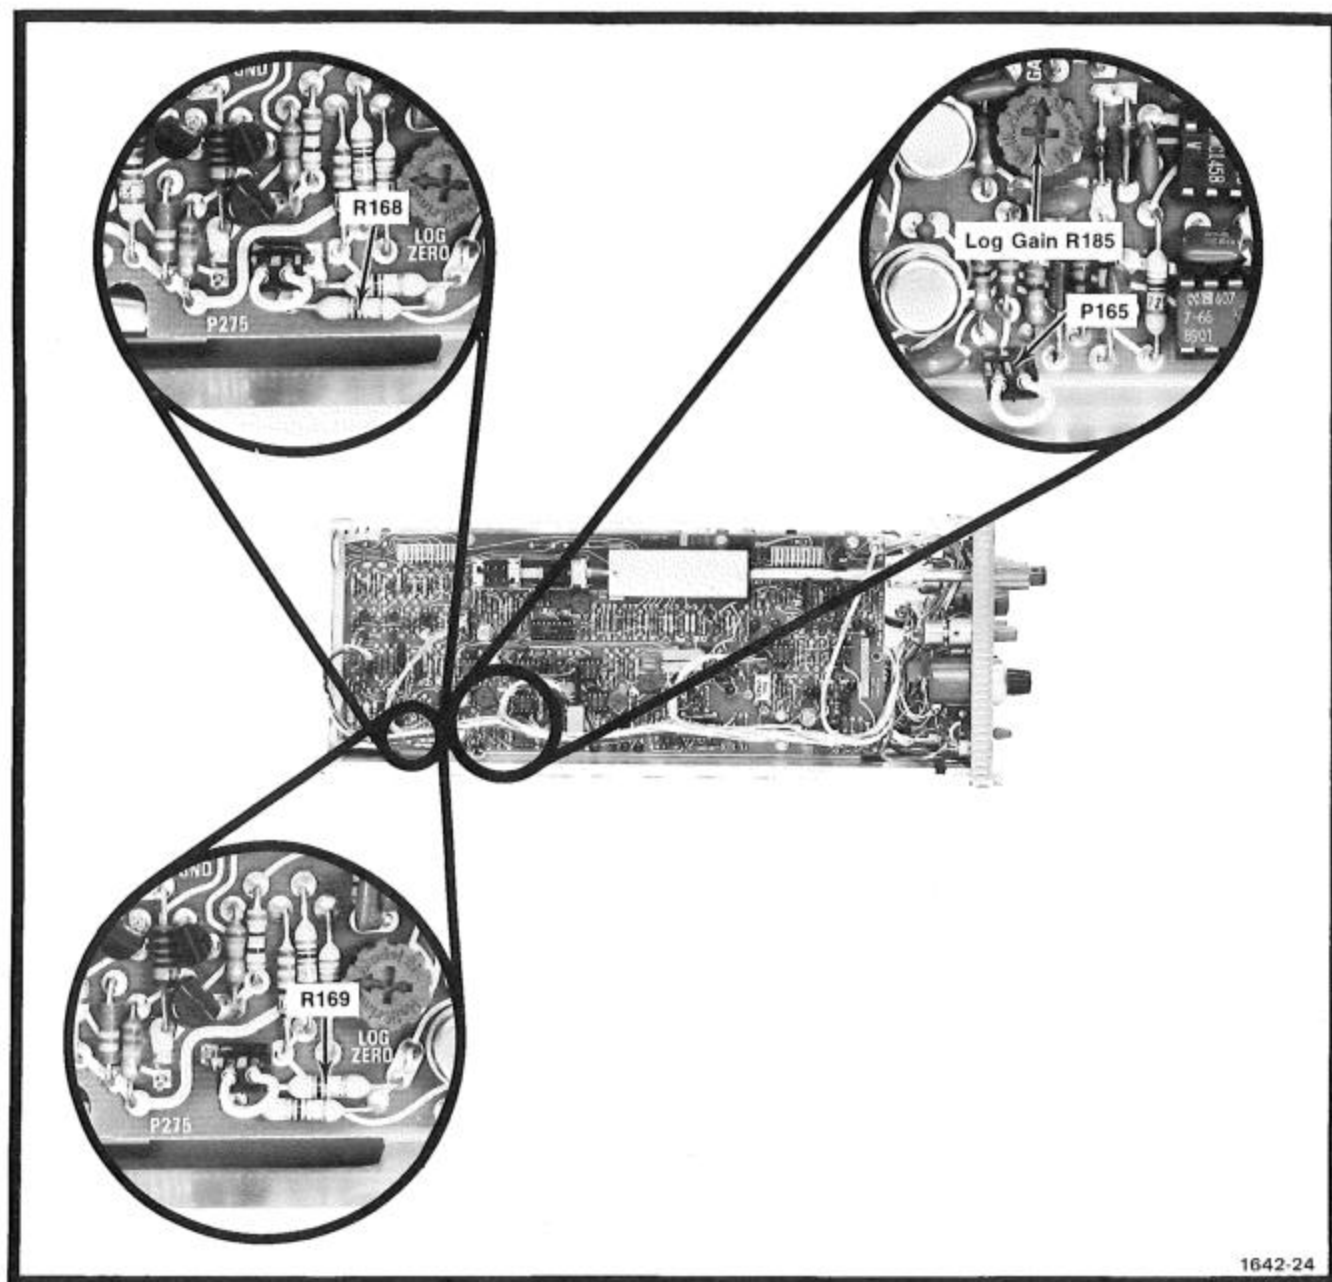

Fig. 5-19. Location of Logarithmic Amplifier gain test points and adjustments.
a. With the VERTICAL GAIN switch set to the 2 dB/DIV LOG position, remove jumper P165 (see Fig. 5-19) from the Vertical Circuit Board and install the jumper on the square pins between ± 8 V and R169 (7.5 k Ω ; see Fig. 5-19).
d. Remove the jumper from R169 (7.5 k Ω) and install it on the square pins between +8 V and R168 (75 k Ω ; see Fig. 5-19).
f. ADJUST—Log Gain R185 (see Fig. 5-19) for exactly 5 divisions of trace deflection between jumper positions.
j. Remove the jumper from R168 (75 k Ω ; and install it on the square pins between +8 V and R169 (7.5 k Ω ; see Fig. 5-19).